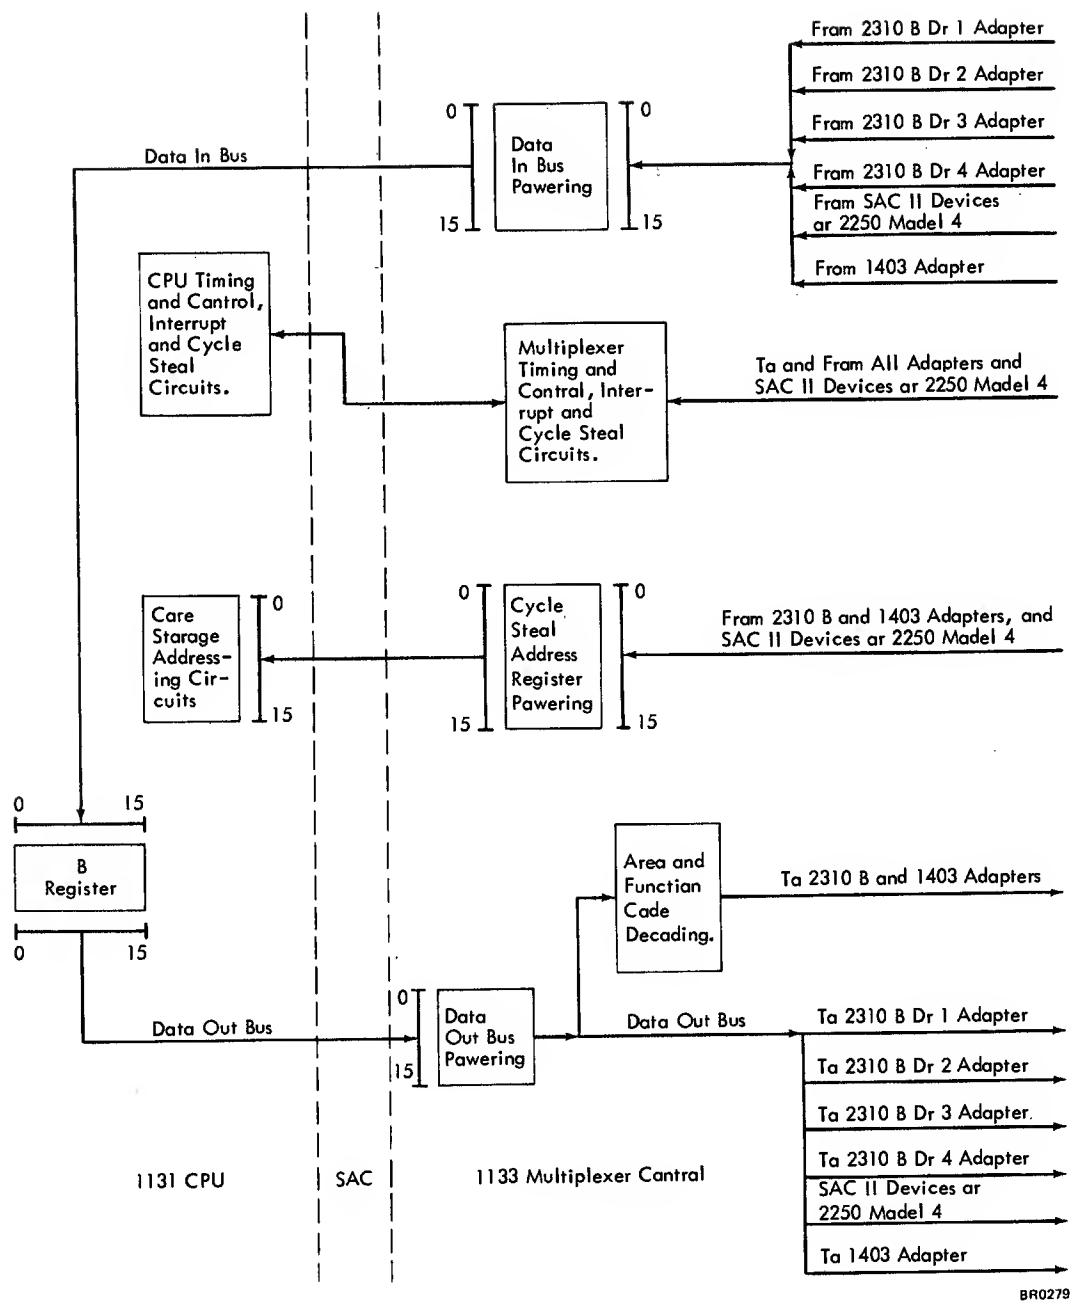

Figure 5-1. Multiplexer Data Flow Through the SAC
- An IBM 1133 Multiplexer Control Enclosure or an IBM 2250 Display Unit Model 4 uses the SAC (Figure 5-1).